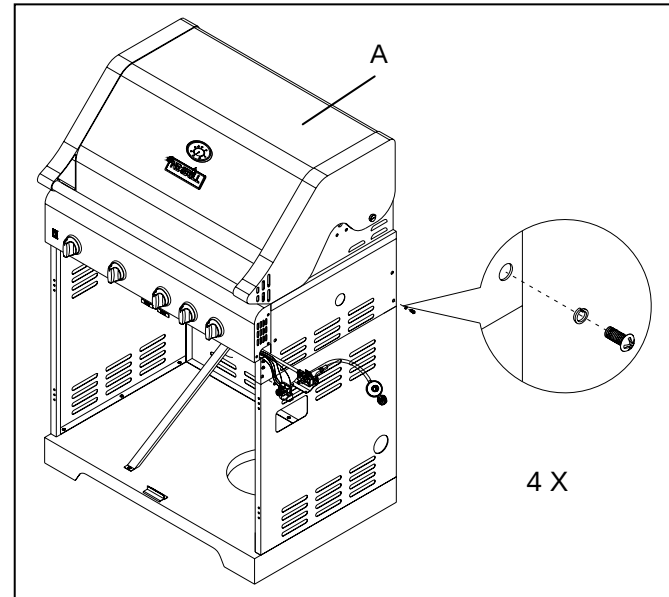

Fig. 10
Attached the door handle (T) to the each door using four 5/32-in. x 10-mm truss head screws(AA) and four 5/32-in. locking washers(BB) as shown in Fig. 10